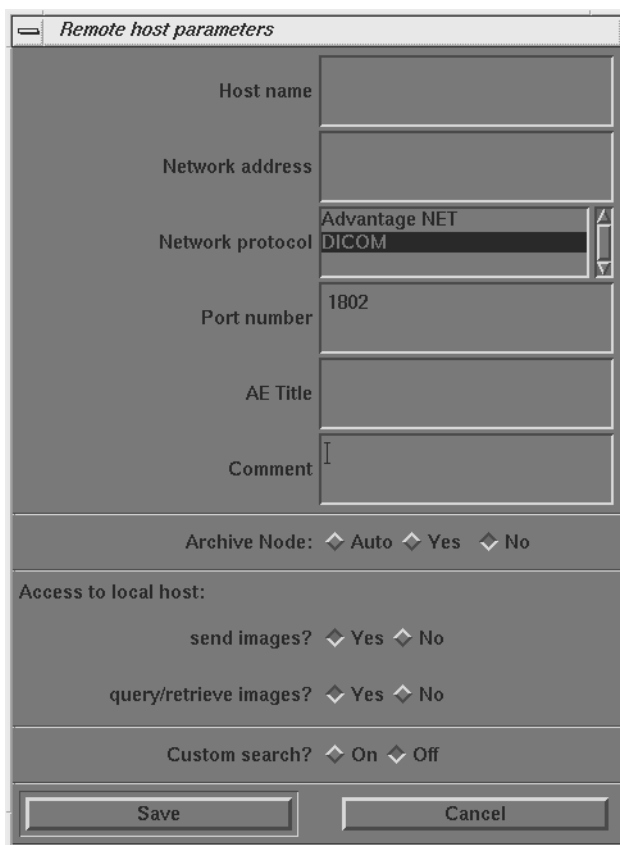

Figure 8-5 DICOM Network Setting Protocol Parameter Settings
- 1.) Select REMOTE HOSTS from the pull down menu. The system displays the Remote Host Parameter screen as shown in Figure 8-5.